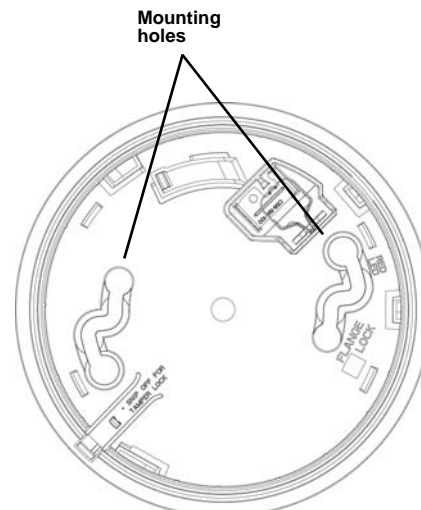

Figure 3 Mounting the wireless smoke detector
2. Referring to figure 3, use the included mounting screws and dry wall anchors to mount the wireless smoke detector base.